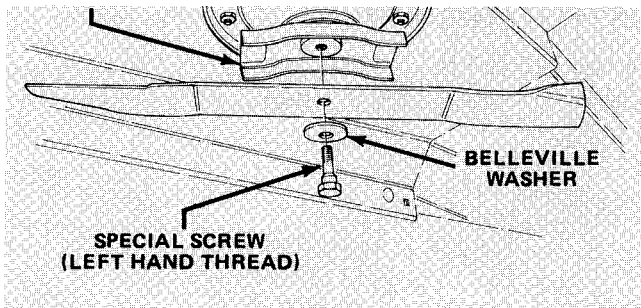

Figure 30
2. Grasp end of blade using a rag or thickly padded glove. Remove special screw, belleville washer and blade from spindle assembly (Fig. 30).